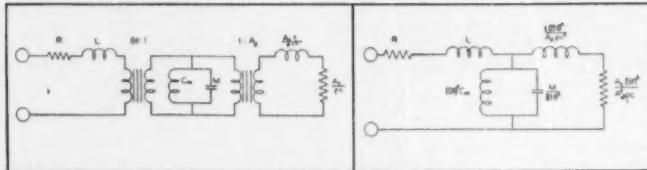
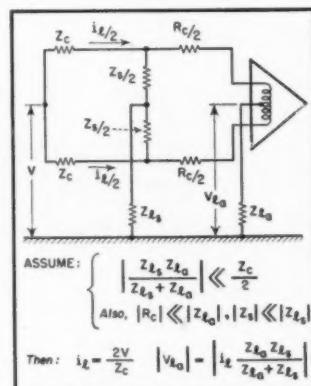

Fig. 7 (left). Equivalent circuit of the entire loudspeaker. Fig. 8 (right). Typical band-pass filter configuration.
Fig. 6. Schematic representation of a longitudinal current resulting from parasitic coupling to a power circuit.
compliance of the air chamber and the resistance of the horn throat to Fig. 6, we have the equivalent circuit of the whole loudspeaker, Fig. 7. This can be reduced to the circuit of Fig. 8, which is a standard band-pass filter, and from the design equations of this filter one finds that for optimum performance the following relations should exist:
These results are shown in the curves of Fig. 6, where (A) is the maximum power in $\frac{1}{8}$ -second intervals for male speech, and (B) represents maximum peak power in the same intervals for a 75-piece orchestra. While there is some reason to believe that higher efficiency in more modern microphones may modify these curves somewhat in the direc-
Some pre-emphasis is employed in practically all commercial recordings made today. Typical curves are shown in Fig. 7, where (A) represents the NAB curve which is generally used with transcriptions and is standard for LP records. The curve used by RCA-Victor is believed to approximate that of (B), while the London (English Decca) curve is shown at (C). Undoubtedly there are some other curves in use, but these shown are commonly employed. If a phonograph amplifier is equipped with means to provide "rolloff" curves which are complementary to these re-
Fig. 6 (left). Curves showing maximum probable power in $\frac{1}{8}$ -second intervals in male speech (A), and in a 75-piece orchestra (B). Fig. 7 (right). Typical pre-emphasis curves: (A) NAB and LP; (B) presumed curve for RCA Victor; and (C) London frrr.
The schematic representation of noise resulting from a longitudinal noise current is shown in Fig. 6. The longitudinal impedances of the input circuit to ground are assumed to be negligible in comparison with the magnitude of the coupling impedance Z_c , between the power circuit and the input circuit of the amplifier. Consider the case in which the metallic-circuit impedances are negligible compared with the magnitude of the longitudinal impedances to ground of the input circuit. The longitudinal noise current entering the circuit is then $i_L = 2V/V_c$. Under these conditions, the longitudinal voltage to ground of the input circuit of the amplifier is